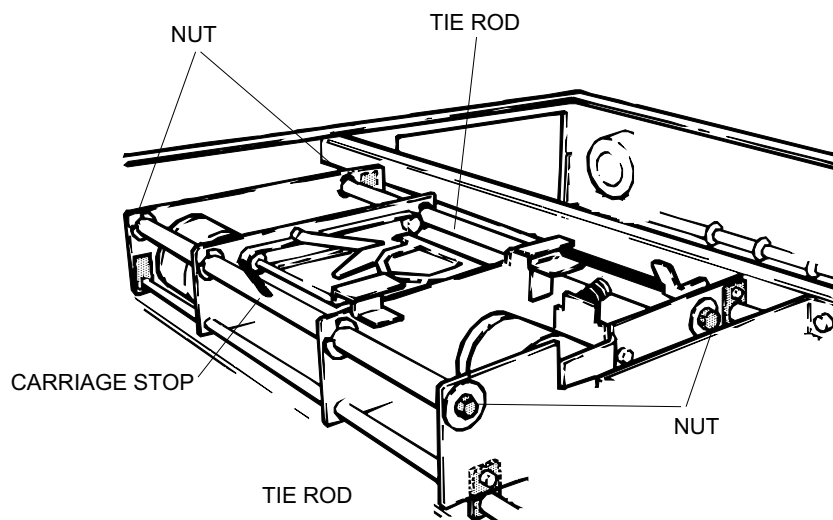

figure 2-26
2. Cut the WIRE TIES along the upper TIE RODS. Mark the position of the WIRE TIES. See figure 2-26 on the next page